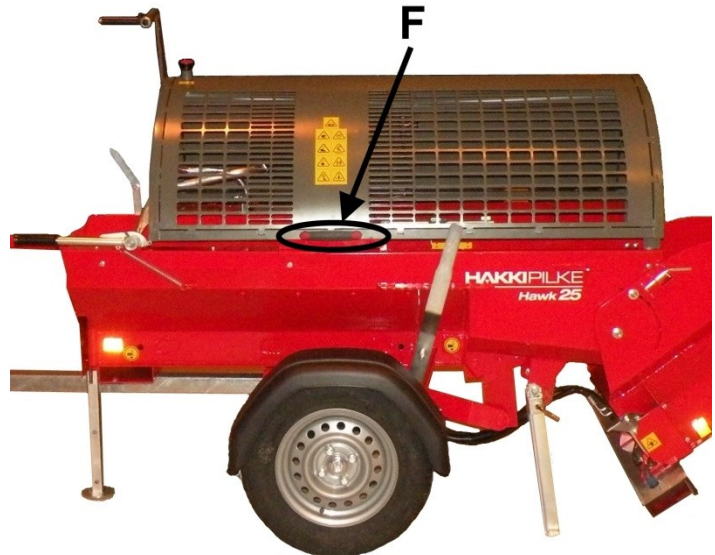

Figure 13.
1. Lift the guard of the firewood processor using the handle F (Figure 13). This closes the hydraulic circuit of the splitting and cutting functions, which means that the machine will start better thanks to the lower load.
6. Close the guard of the firewood processor using the handle F (Figure 13).
1. Turn the machine off and open the machine's guard (Figure 13).